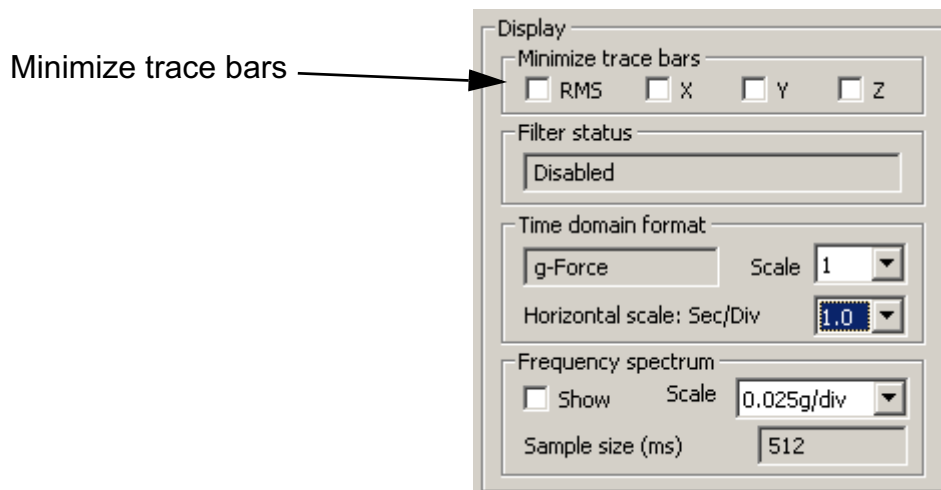

Figure 4.15: Minimizing Trace Bars
- Under **Minimize trace bars**, check the boxes for the traces you want to minimize (see Figure 4.15).